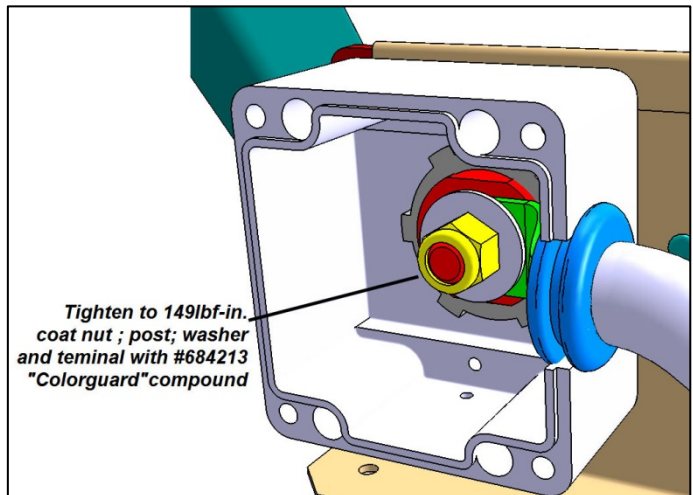

Figure 16
- B22. Install protective box cover with provided screws (Fig. 16).